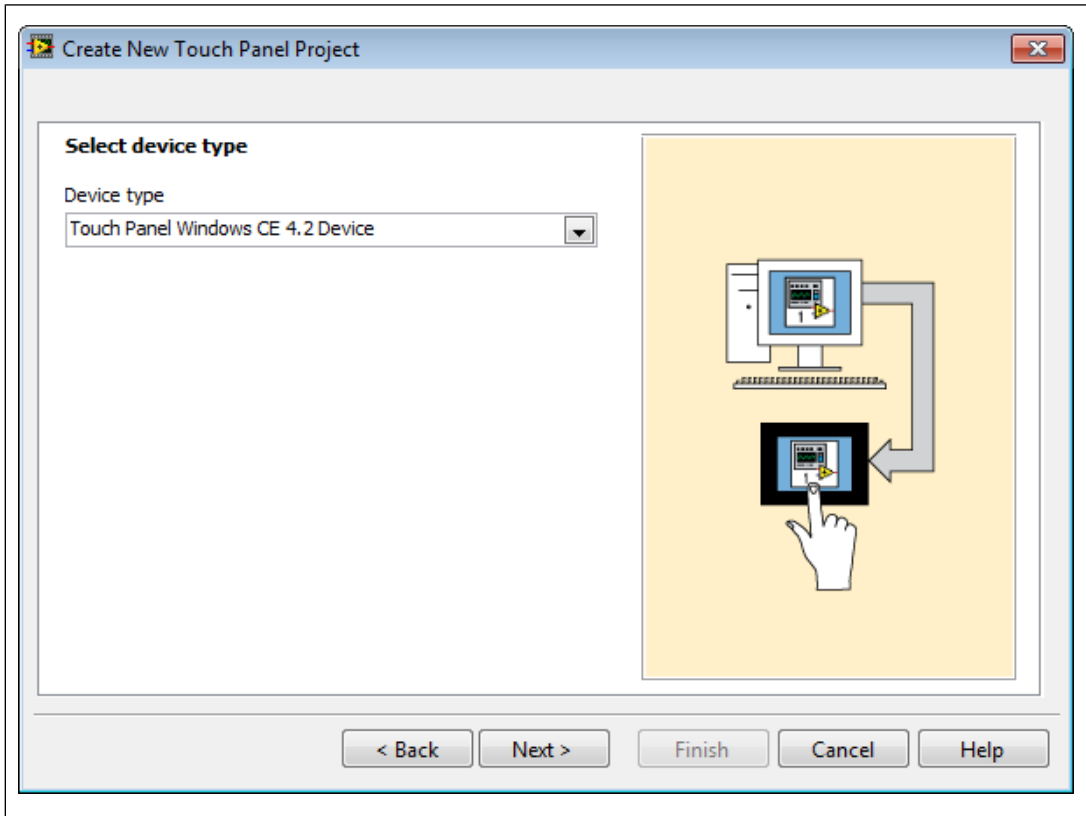

Figure 2. Selecting the Target
4. Select the Touch Panel device you are using from the **Device type** pull-down menu, as shown in Figure 2.